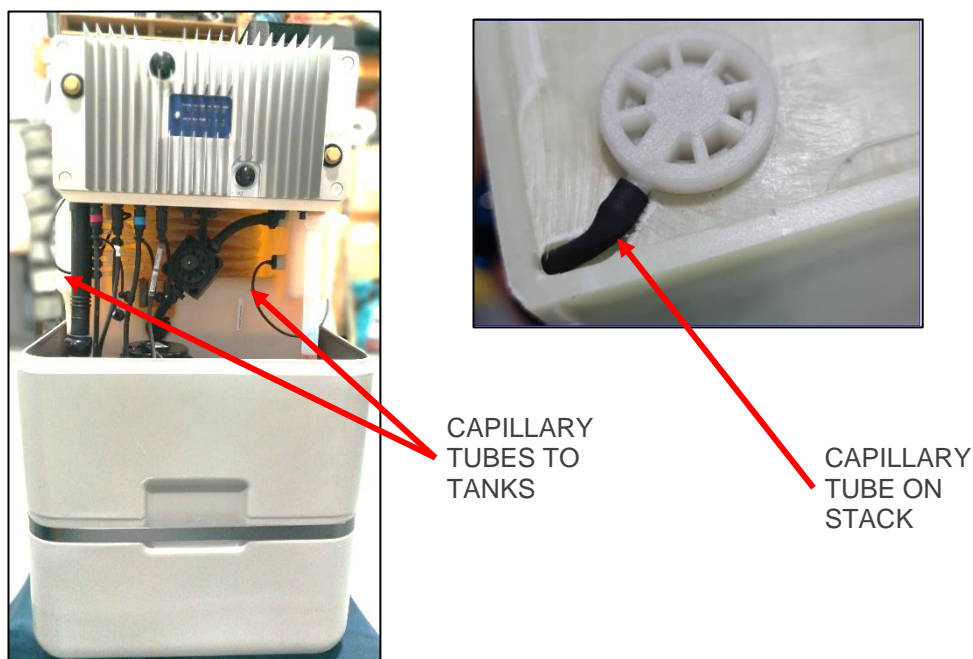

Figure 15: Example capillary tubes
- STEP 4** Inspect to make sure that the ZBM Viton capillary tubes (see Figure 15 for examples) have not been damaged or kinked during transportation or installation. Also check to make sure each end of the tubes is securely connected.